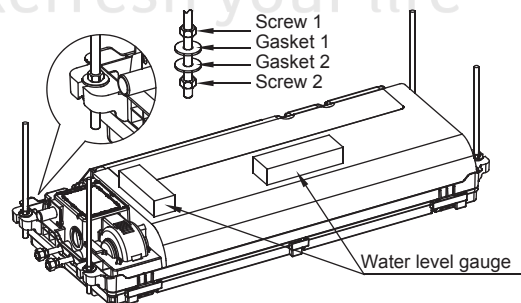

Fig. 5-7
- Hoisting the unit on the suspender bolt as the Fig5-7 display, use the level gauge to level-out the length and width directions, and it needs to repeatedly adjust four screw 2 of the suspender during the process. It might occur this situation: under making sure the unit level, the difference of four gasket 2 of the hoisting bolt and the lower surface of the ceiling will be discorded, can not be 70mm. At this time it should make sure the level of the unit body, and move the whole unit up and down, and make the four differences try to be close to 70mm;